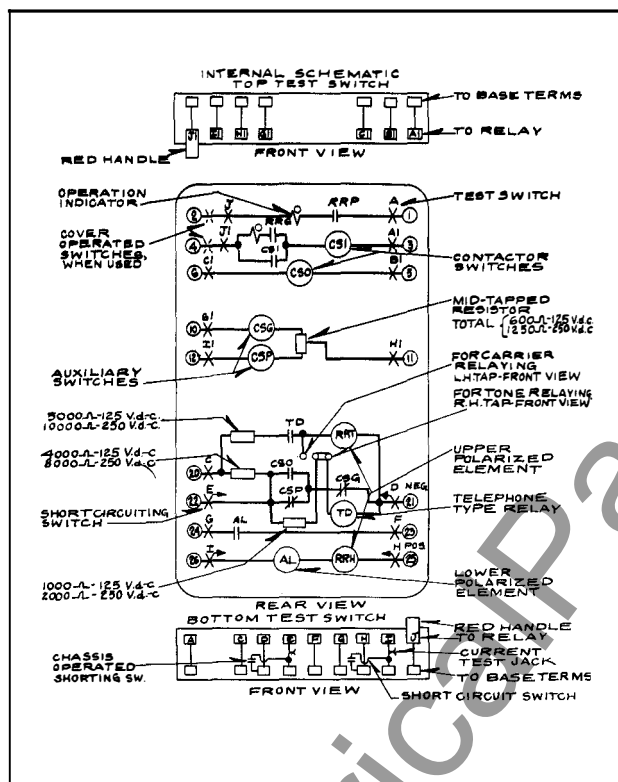

Fig. 1—Internal Schematic of the Type RS Relay for Tone Relaying in the Type FT Case.
Outline and Drilling Plan of the Standard Projection Type Case (See Figure 1 for Terminals Supplied)
provided by a telephone-type relay (TD) interposed between the carrier stop circuit and the operating coil of the receiver relay, as shown on the internal schematic, Figure 1.